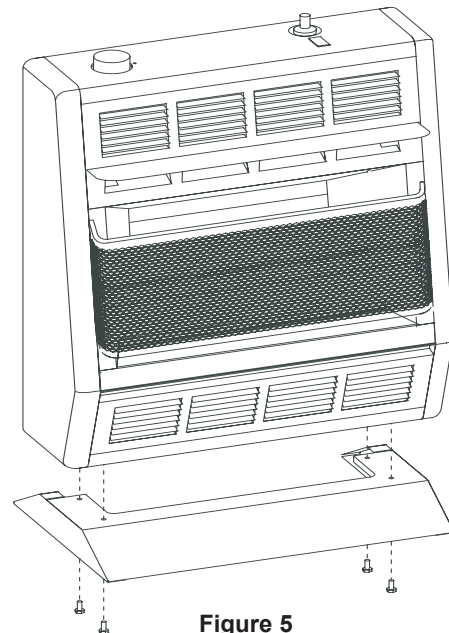

Figure 5
1. Align clearance holes on floor stand with screw holes on bottom of heater, as shown in **Figure 5**.
2. Attach floor stand to heater with (4) screws provided with floor stand.